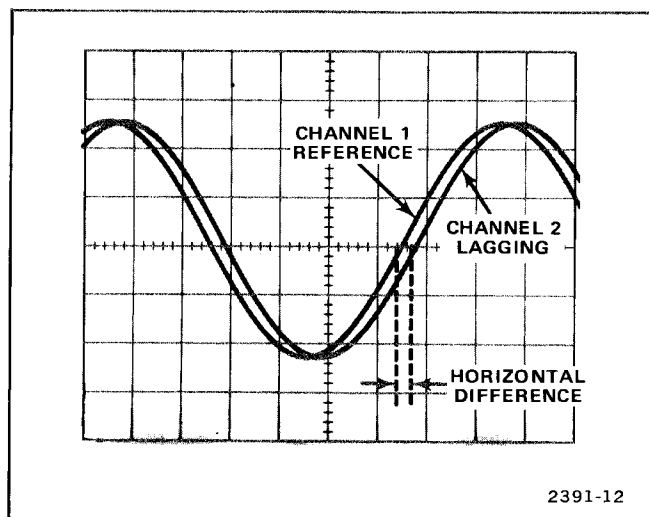
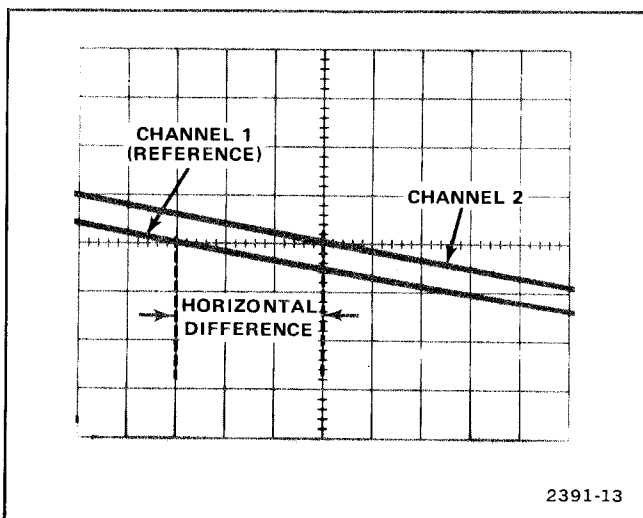

Figure 1-6. Measuring phase difference between two signals.
Figure 1-7. High resolution phase measurement using time-base magnifier.
8. Adjust the time-base Variable Time/Div control until one cycle of the reference signal occupies exactly eight horizontal divisions between the second and tenth vertical lines of the graticule (see Fig. 1-6). Each division of the graticule represents 45° of the cycle (360° ÷ 8 divisions = 45°/division). The sweep rate can now be stated in terms of degrees; for example, 45°/division.
EXAMPLE: Assume a horizontal difference of 0.3 division with a sweep rate of  $45^\circ/\text{division}$  as shown in Figure 1-6.
EXAMPLE: If the sweep rate is increased 10 times by the Magnifier, the magnified sweep rate is  $45^\circ/\text{division} \div 10 = 4.5^\circ/\text{division}$ . Figure 1-7 shows the same signals as used in Figure 1-6 but with the Magnifier set to X10. With a horizontal difference of 3 divisions, the phase difference is: